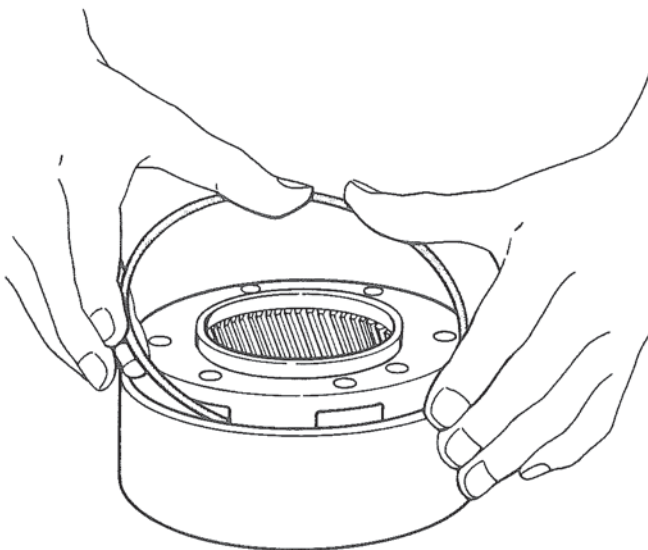

Figure 12. Removing Snap Ring.
10. Remove the snap ring and separate the stationary gear plate and ring. Figures 12 and 13.